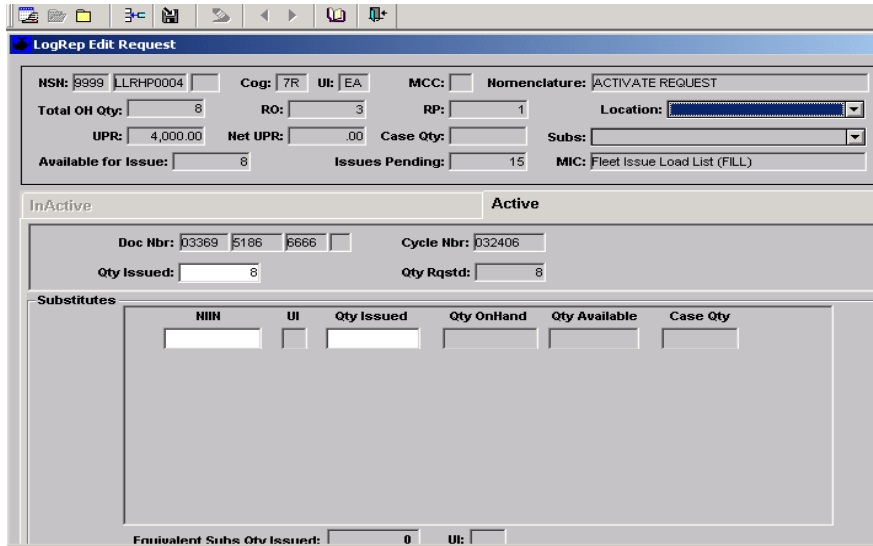

Figure 6.7
- 6.2.3 The **Edit LOGREP Request - Active (substitute)** window tab (Figure 6.7) allows the user to update substitutes already selected during the activate process and to select additional substitutes while editing LOGREP requests.